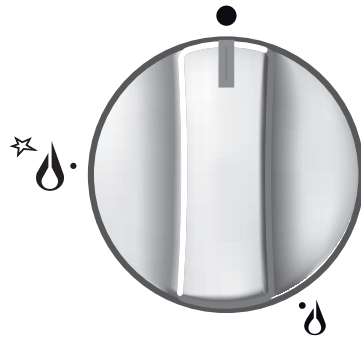

Fig. 2.1
Gas flow to the burners is adjusted by turning the knobs (illustrated in fig. 2.1) which control the safety valves.
1. Press in the corresponding knob and turn counter-clockwise (fig. 2.2) to the full flame position marked by the  symbol (fig. 2.1); hold the knob in until the flame has been lit.